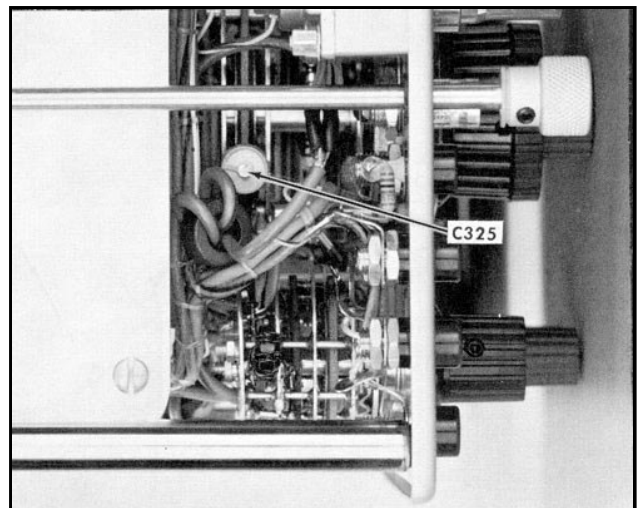

Fig. 5-21. Bottom side of Type 1S1 showing location of C325.
h. Adjust C325 if the display is not correct. See Fig. 5-21 for the location of C325.